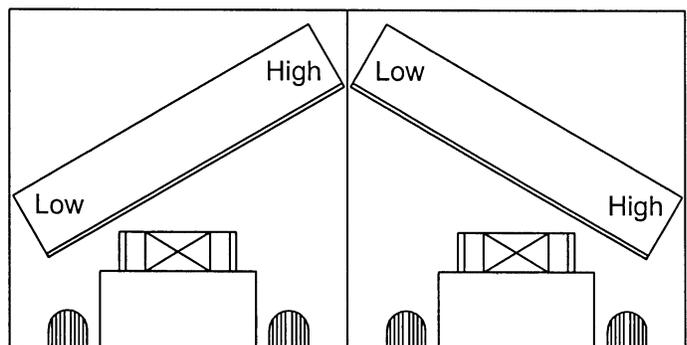

Figure 17
- Figure 17, loosen hardware that attaches the half-moon plate assembly to the brush head assembly; lower the right-hand side of the brush head until both sides are an equal distance above the ground. Tighten the hardware.